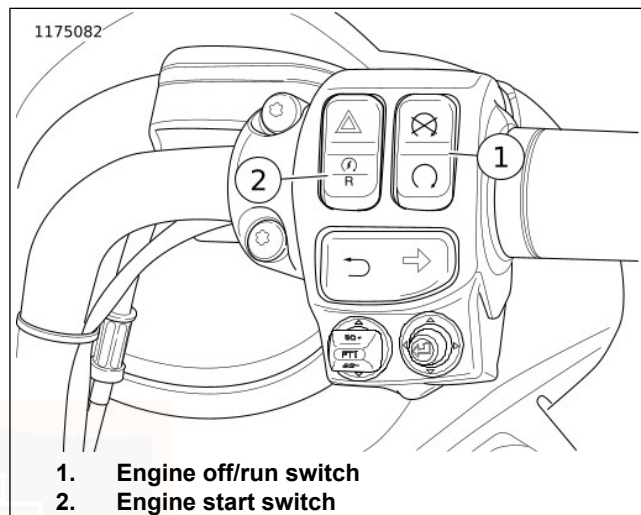

Figure 43. Right Handlebar Controls (typical)
2. Set the OFF/RUN switch to RUN. See Figure 43.